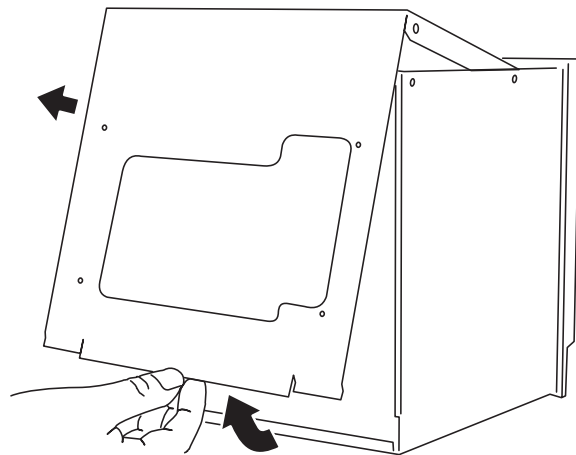

Figure 11.1b Remove cover
3. Once all the fixings have been removed, the cover can be removed by lifting its bottom edge upwards and outwards (figure 11.1b).
2. Cut the cable tie (figure 11.1b, above) which secures the fan harness to the chassis.